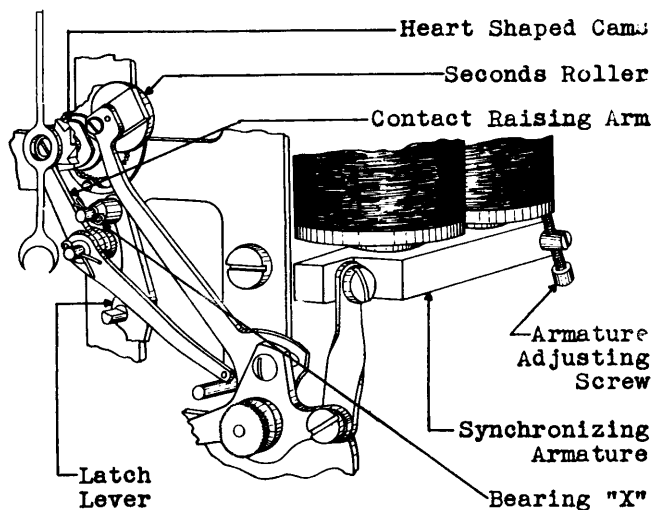

Fig. 11 - Position of Seconds Roller and Synchronizing Armature - Synchronizing Mechanism Operated
(1) If the synchronizing mechanism does not function properly remove the hands and dial as covered in 3.01. Manually turn the cannon socket assembly slowly until the pin on the disc on the cannon socket assembly just unlocks the synchronizing latch. With the latch open, manually operate the synchronizing armature. The seconds roller should move the seconds arbor to the position in which the seconds hand indicates 60 seconds. In this position the synchronizing lever should rest on the two point cam of the cannon socket assembly and the seconds roller should barely clear the heart shaped cam as shown in Fig. 11.
(2) If the armature air gap is not as specified, slight adjustments may be made by turning the armature adjusting screw with the 3-1/2" cabinet screw-driver. If a satisfactory adjustment cannot be made in this manner, loosen the yoke adjusting screws with the 3-1/2"
(3) If the seconds roller does not clear the heart shaped cam as specified, adjust the synchronizing lever as required at a point about one inch below the seconds roller, using the long nose pliers.
(4) If the synchronizing latch does not function properly, first, ascertain that the latch lever is free to move at bearing "X" (shown in Fig. 11). If this bearing binds, clean it as covered in procedure 3.01. Do not attempt to adjust the latch.